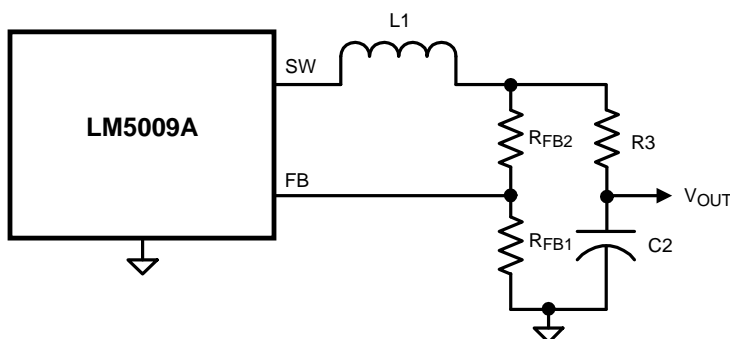

Figure 17. Alternate Minimum Output Ripple
**c) Alternate minimum ripple configuration:** The circuit in Figure 17 is the same as that in the Block Diagram, except the output voltage is taken from the junction of R3 and C2. The ripple at  $V_{OUT}$  is determined by the inductor's ripple current and C2's characteristics. However, R3 slightly degrades the load regulation. This circuit may be suitable if the load current is fairly constant.